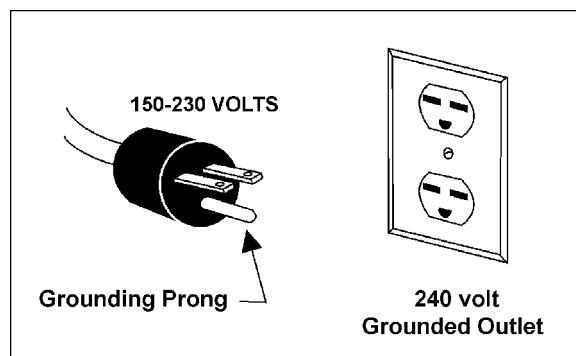

Figure 24
3. The 115V attachment plug supplied with the band saw must be replaced with a UL/CSA listed plug suitable for 230V operation, as shown in Figure 24. Contact your local authorized WMH Tool Group service center or qualified electrician for proper procedures to install the plug. The band saw must comply with all local and national codes after the 230 volt plug is installed.
4. The band saw with a 230 volt plug should only be connected to an outlet having the same configuration (Figure 24). No adapter is available or should be used with the 230 volt plug.